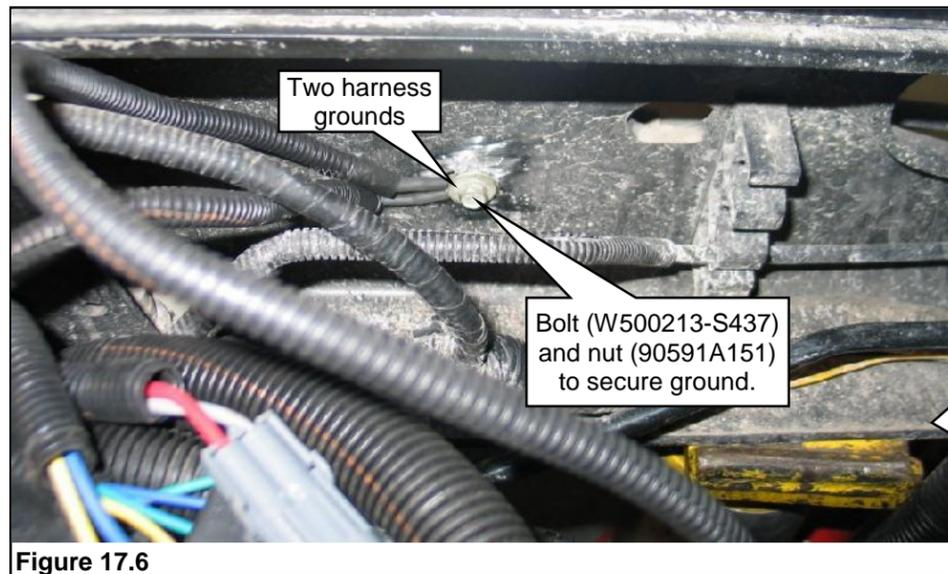
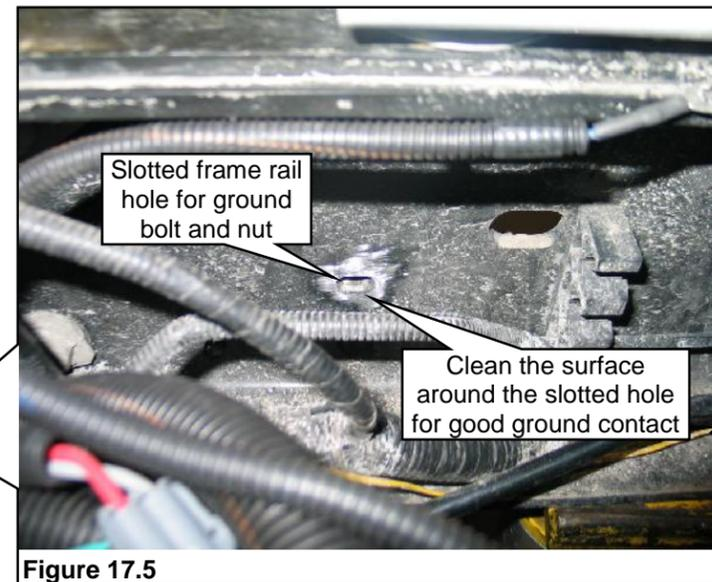

Figure 17.6
Figure 17.5
11. Connect the rear frame harness ground lead and the fuel tank jumper harness ground lead to the left frame rail using an M6 x 1.0 x 16 bolt and nut. Use the slotted hole as shown in **Figure 17.5** or similar available hole in frame rail. Tighten the ground to 8–12 Nm. **Figure 17.6. Note:** To make sure a good connection to ground is made, remove the paint around the slotted hole and under the ground eyelet location. **Figure 17.5.** Ground bolt and nut are supplied with the kit.